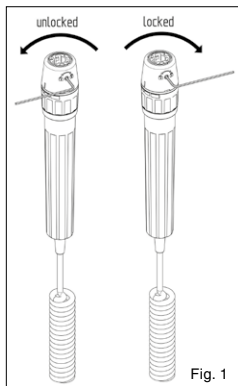

Fig. 1
- Instruments can be locked to prevent unauthorized removal by using the enclosed Allen wrench according to fig. 1.